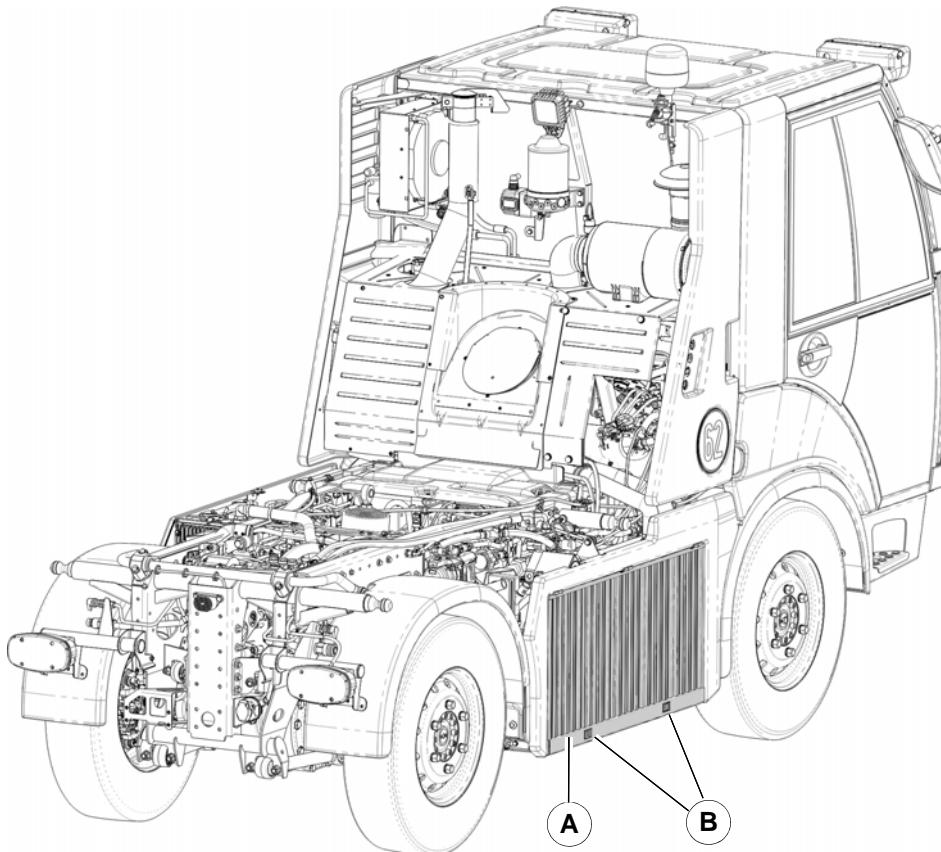

Fig. 142:
2. Push both locks **Fig. 142-B** simultaneously inwards and swing up the radiator cover **Fig. 142-A**.